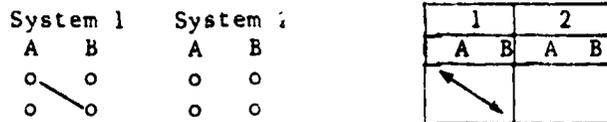

Figure 12. Diagonal Connections (down and across within a system)
- Some cable connections run diagonally between two components that are part of the same system. Notice in Figure 12 below the cable runs from Component A down and across to Component B.